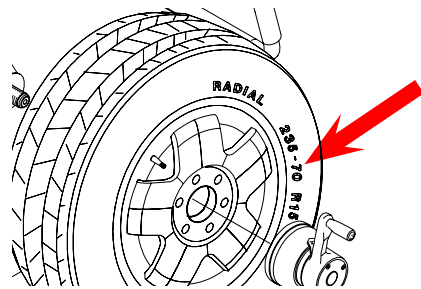

Figure 24a
**4.5.3.0 Manual Rim Diameter Entry** - Select the Manual Diameter button. Read the rim diameter marked on the sidewall of the tire (Figure 24a and 24b). Press the Diameter Button (D) and enter the measured rim diameter by selecting the +/- keys until the desired value appears in the display.